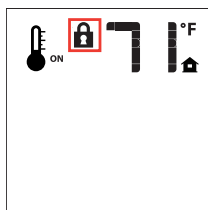

Figure 51b - Remote Control Displaying Key Lock Mode
1. To activate this function, press the MODE and UP keys at the same time. A lock icon will appear on the LCD screen (see Figure 51b).